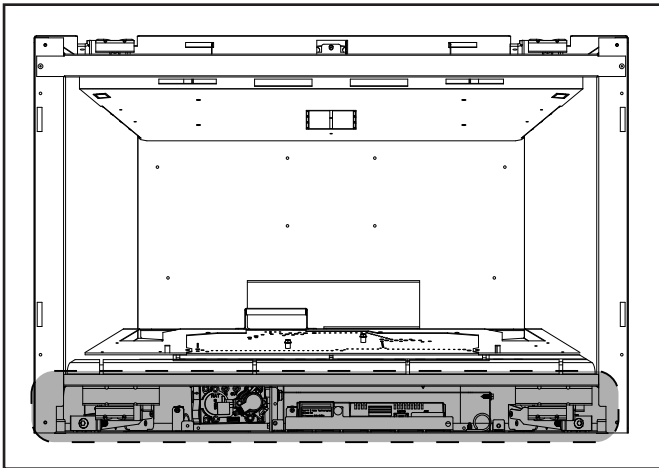

Figure 3.5 Control Cavity
1. Access the control cavity of the appliance. See Figure 3.5 for location. The decorative front, fixed glass assembly, and glass seal plate will need to be removed.